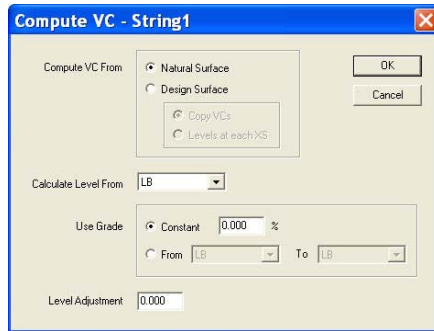

Figure 18-38. Compute VCs
1. Click **Profile ► Compute VC's**. The *Compute VC* dialog box appears (Figure 18-38).